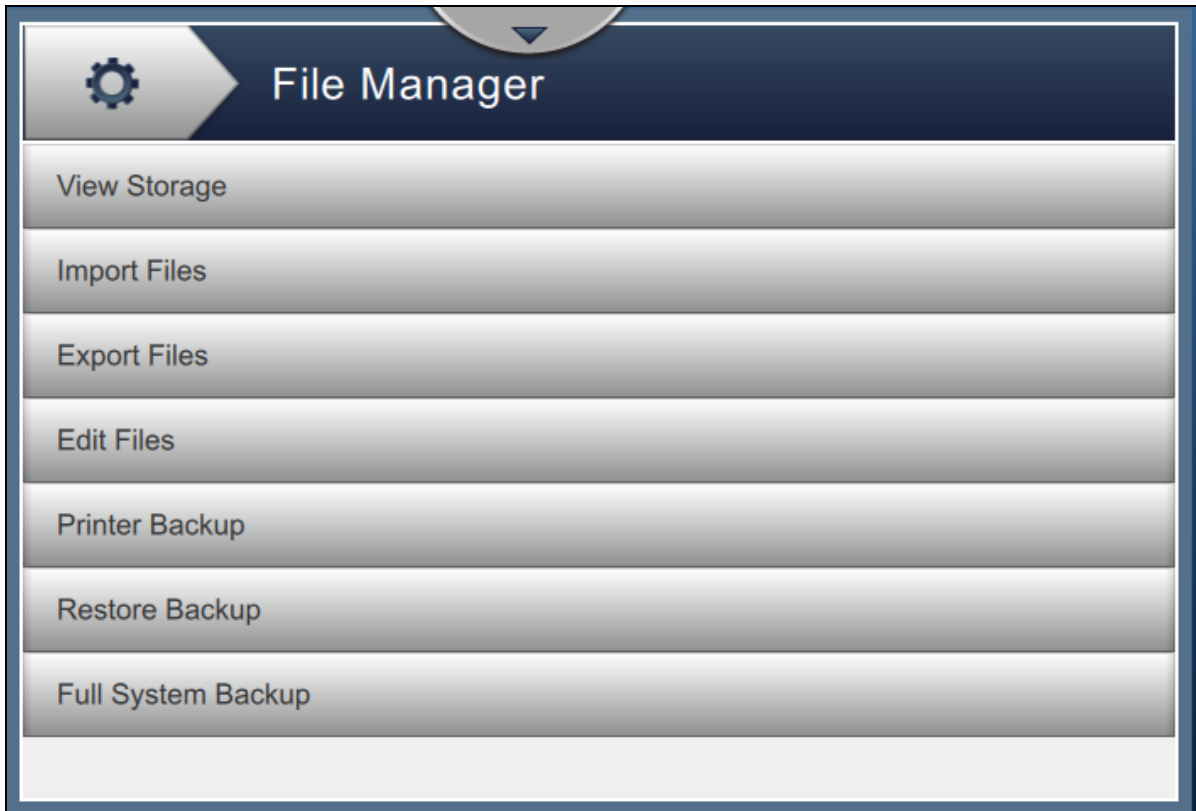

Figure 6-6: File Manager
1. Touch the  button from the Tools screen. The File Manager screen opens as shown in Figure 6-6.